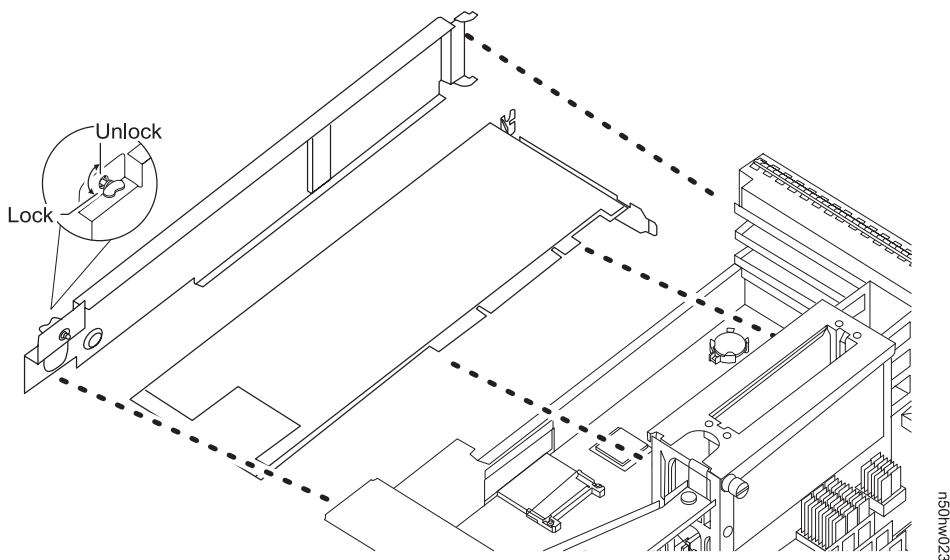

Figure 31. Accessing the NVRAM5 adapter
3. Remove the NVRAM5 adapter by completing the following substeps, using Figure 31 on page 63 for reference: